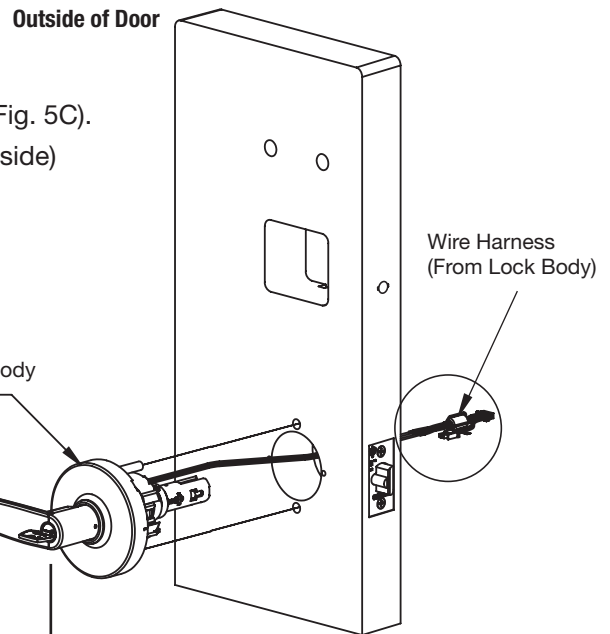

Fig. 5C
1. Feed wires into the lock body hole, from outside of door (Fig. 5C).
3. Lock body must engage both the latch unit prongs and tail piece (Fig. 5C).